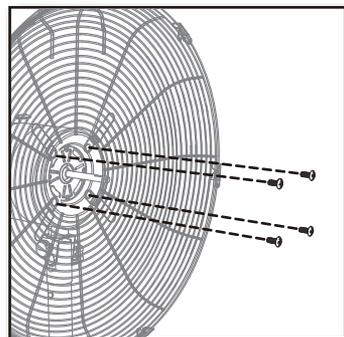

Figure 12
3. To attach the rear grill to the motor housing partially install the four grill mounting screws. Tighten all four screws. Figure 12.